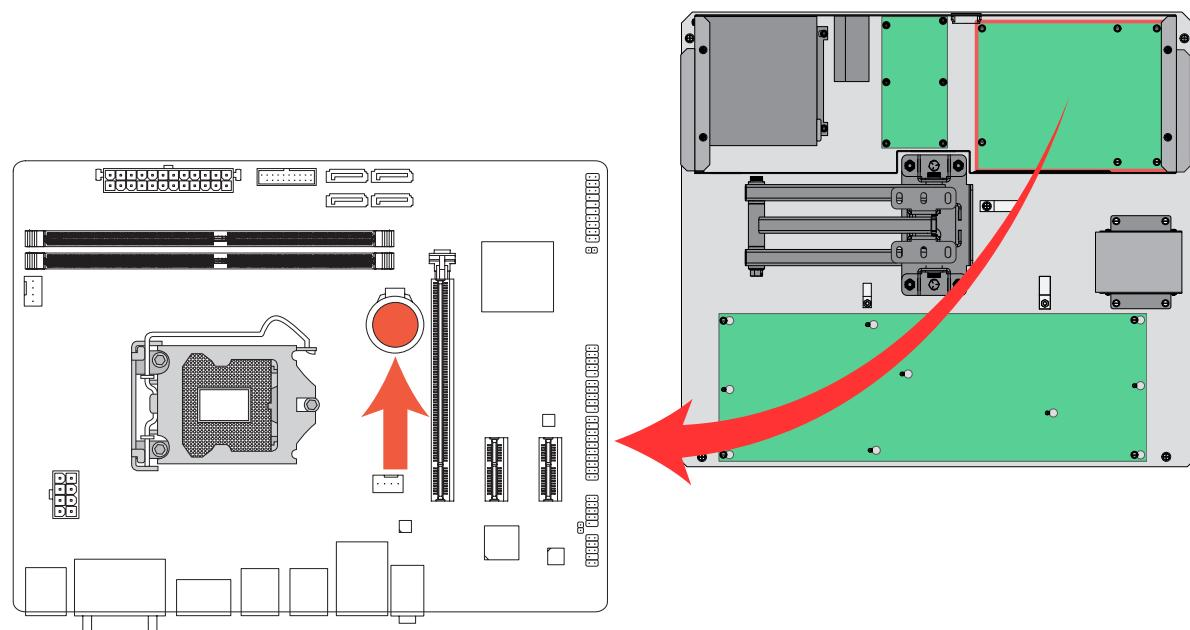

Figure E8. CPU board and battery locations.
- 3) Disconnect the Backbox LED Strip cable (left, inside of the backbox) and free the loose end from the nylon cable clamp(s). Remove the lid of the Backbox PCBs EMI Shield Enclosure by removing the four HWH Phillips machine screws (circled in red, figure E8); set the lid and the four screws aside.
- 4) Locate the CPU board (upper right corner of the EMI shield enclosure), then the shiny, CR2032 coin cell battery & holder mounted on its surface (red arrow and circle, figure E8). Note the orientation of the battery in its holder (with the battery label/imprint facing *outward*).